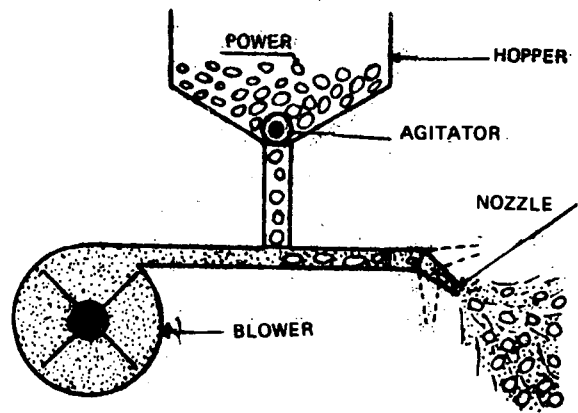

Fig. 2
c) Adjust the direction of dusting (Fig. 2).